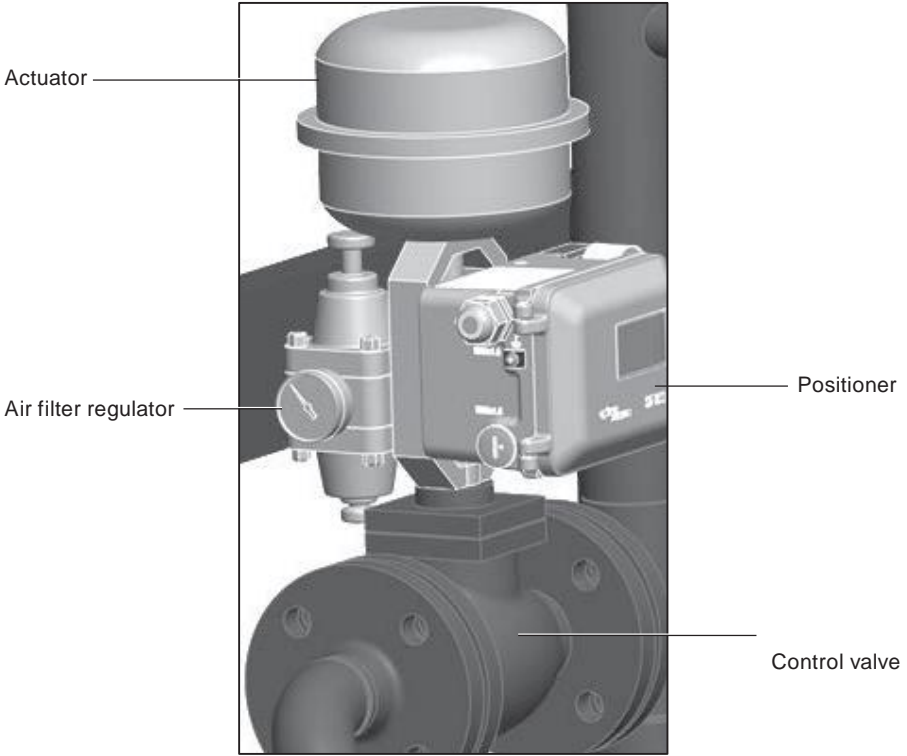

Fig. 24
5.4.12 Pneumatic (modulating) control valve - Figure 24